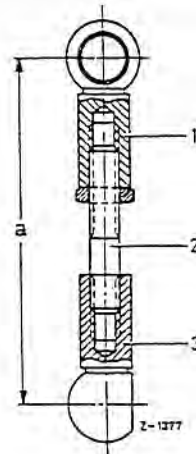

Fig. 26-11/3
The pressure pin (36) has been increased in length (for length see Job No. 26-0) and the recess in the end section of the shift tube has also been increased (Fig. 26-11/1) in order to ensure instant response of the reversing light switch.